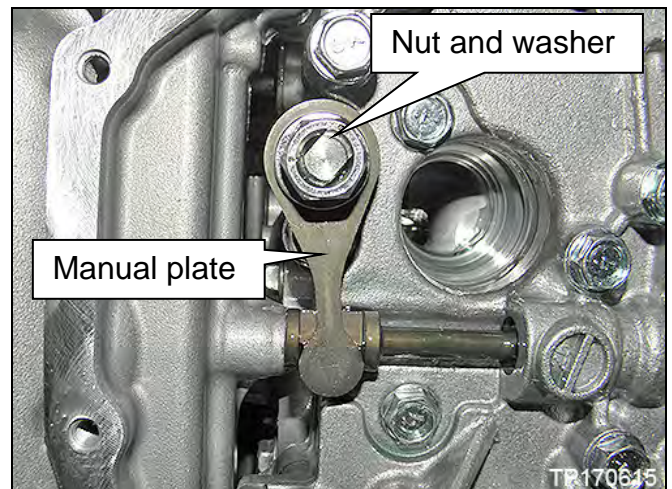

Figure 6B
12. Remove the nut and washer, and then remove the manual plate shown in Figure 6B.